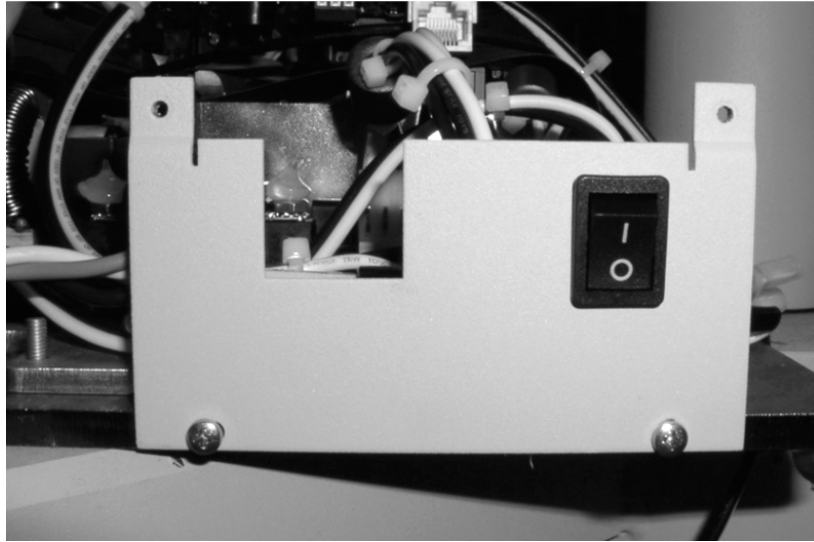

Figure 34: Mounting the Power Switch Assembly
6. Mount the Power Switch assembly to the Mounting Plate and attach the short power cable to J3 on the Power Supply Board 30-08041 (Figure 34).